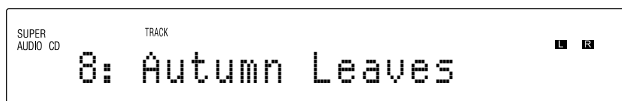

Figure 23
2. In a similar manner, some SACD Discs have the ability of scrolling the Track Number and Title by pressing the MENU/TEXT Push-button **after** the Track has started to play. Refer to figures 23 and 10.